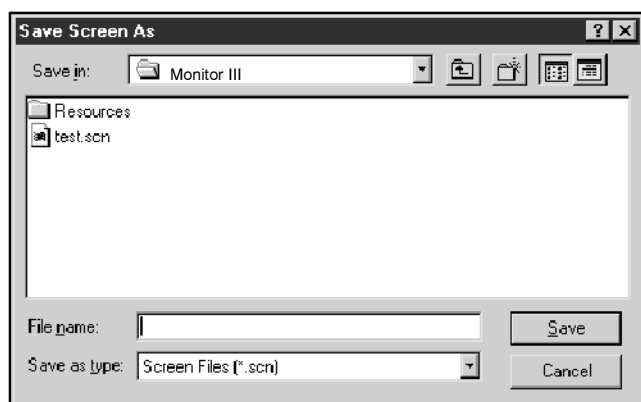

Figure 2-8 Save Screen
2. A dialogue box appears. See Figure 2-8. Type in a filename for the screen file. Choose a unique name that identifies the file for future reference. Screen files use the extension *.scn*. Do not type the filename extension; the program appends the extension to the filename automatically.
4. A dialogue box similar to the one shown in Figure 2-8 appears. Use the drop-down arrows to change directories if you need to save the file in a different location.